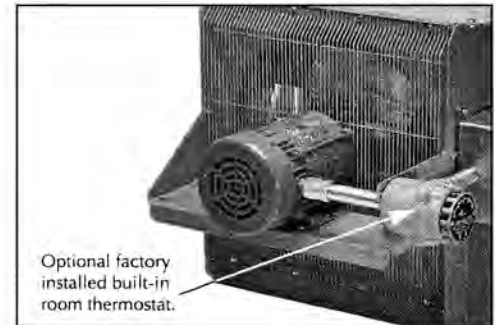
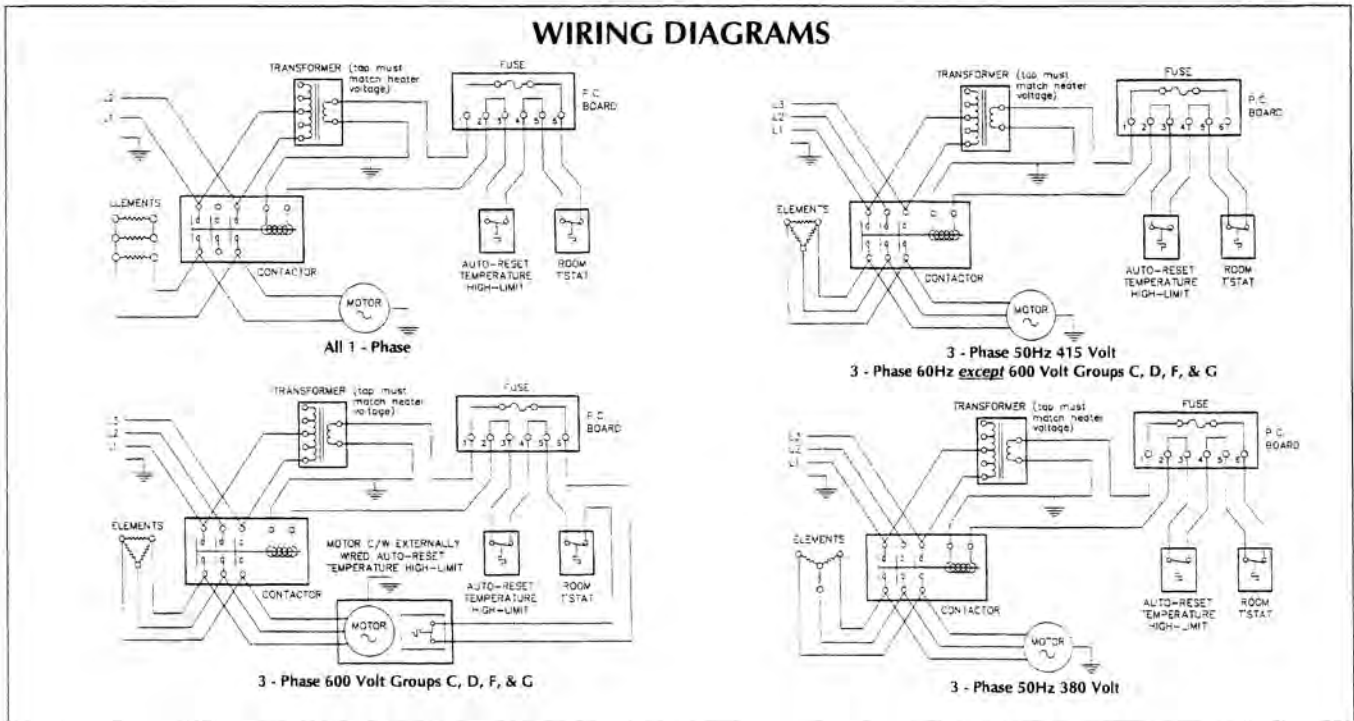

FIGURE 7
FIGURE 8
2. Heater may be supplied with a factory installed built-in room thermostat (see Figure 7). On heaters not supplied with this option, it is recommended that a room thermostat be used. When installing a room thermostat for a 600V Groups C, D, F, & G heater, the Motor Temperature High Limit must be connected in series with the control circuit (See Figure 8). On all other heaters, connect the room thermostat conductors to the printed circuit board terminal block marked "TSTAT". Any room thermostat used with this heater must:
- a. check that all connections are secured and comply with the applicable wiring diagram (see Figure 8) and code requirements,
- a. check that electrical connections are correct and secure (see Figure 8),